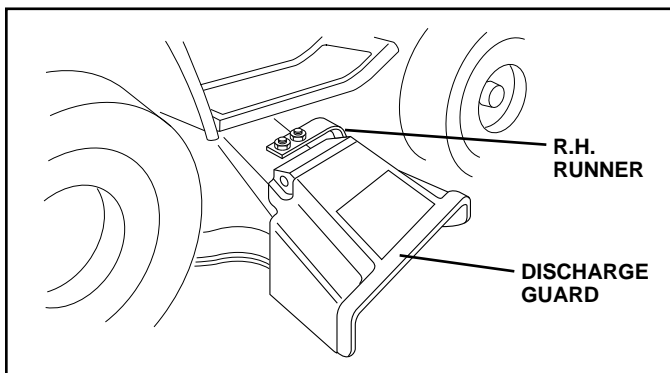

FIG. 10
- Use the runner on the right hand side of mower as a guide. The blade cuts approximately an inch outside the runner (See Fig. 10).